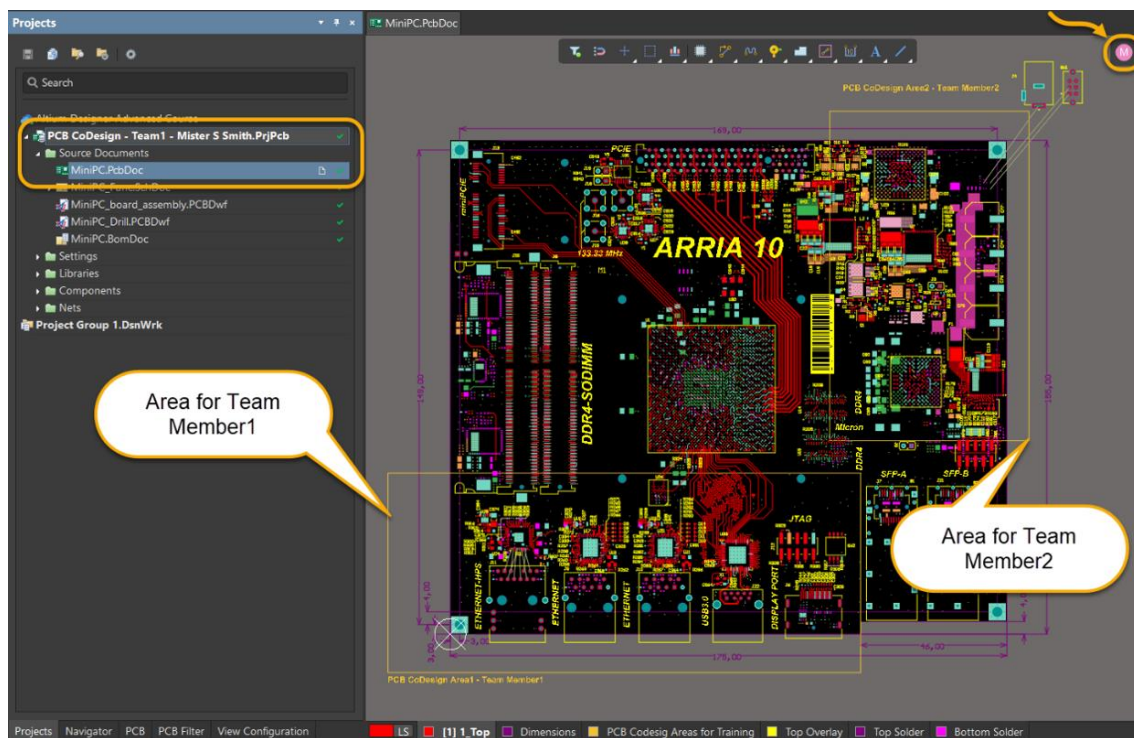

Figure 2. MiniPC PCB with predefined areas for PCB CoDesign
12. In the lower left-hand area and in the upper right-hand corner of the PCB, you can find zone information for **Team Member 1** and **Team Member 2**, created on a mechanical layer, as shown in Figure 2.
13. In the upper right corner of the PCB area, Altium Designer adds an icon for each person that has also opened the document, for example,  as shown in Figure 2.